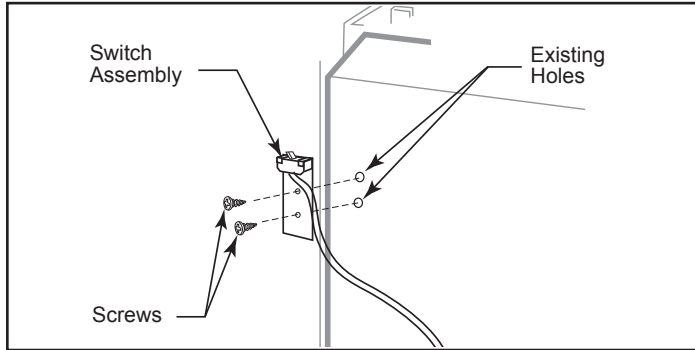

Figure 15 - Attach switch assembly to rear shroud.
1. Attach switch assembly to left rear side of stove shroud using two screws and existing holes in shroud. (Figure 15)